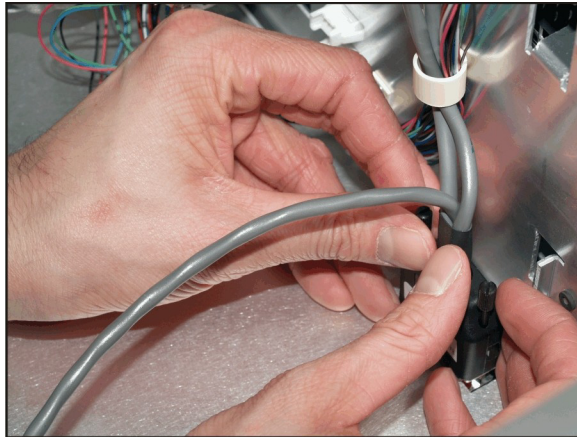

Figure 5-28 LPS Communication Harness
10. Disconnect the LPS Communications harness by removing the two retaining screws and pulling up (Figure 5-28).